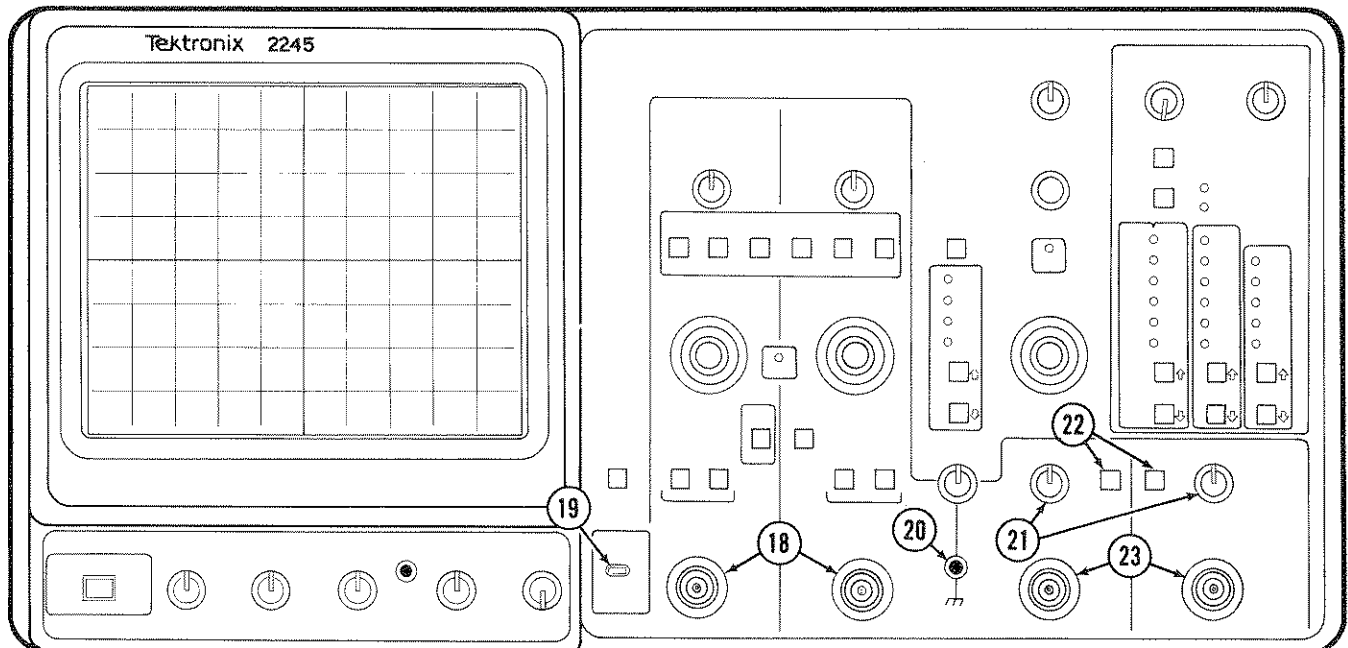

Figure 3-3. Vertical connectors and CH 3 and CH 4 controls and indicators.
See Figure 3-3 for items 18 through 23.
- ⑱ **CH 1 OR X and CH 2 Input Connectors**—Connect external signals to the inputs of Channel 1 and Channel 2 vertical attenuators.